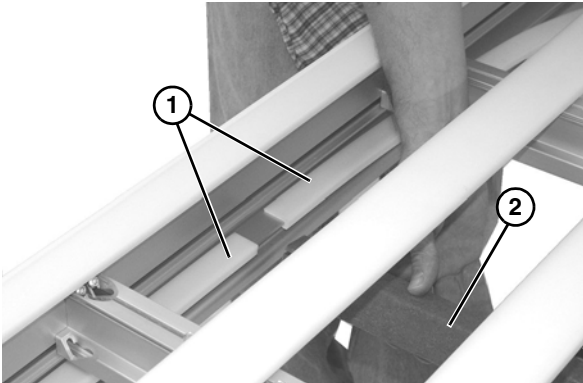

Figure 34
2. Remove lower wear strips (**Figure 34, item 1**), and if necessary, lower belt return (**Figure 34, item 2**) from lower frame assembly.